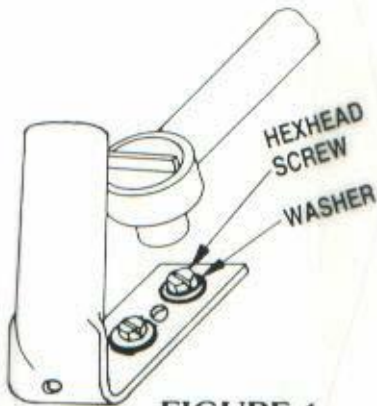

FIGURE 4
C. Attach each screw with a ratchet wrench and a 3/8" socket or slotted screwdriver. (If you are using the Drive Wall anchors, they normally require a phillips head screwdriver) See Figure 4.